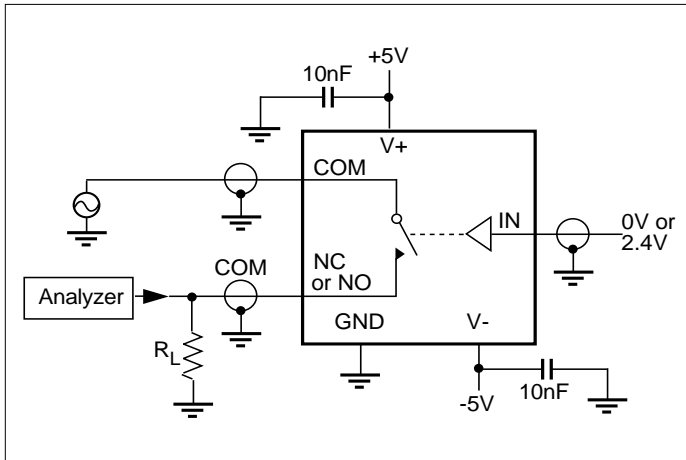

Figure 5. Off Isolation
7. Off Isolation =  $20 \log_{10} [ V_{COM} / (V_{NO} \text{ or } V_{NO}) ]$ . See figure 5.